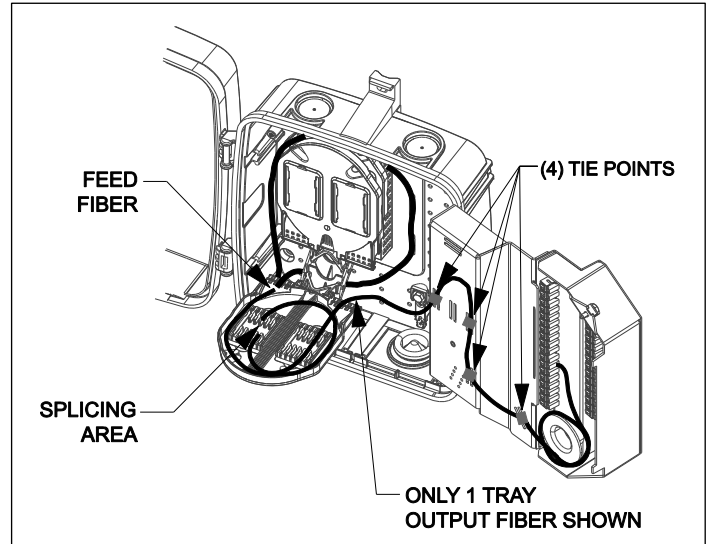

Figure 8 Route Fiber to Adapter
6. Strip the buffer tubing away to expose the fibers. Route the fibers into the tray. Splice the fibers as needed in the splicing area (Figure 8).